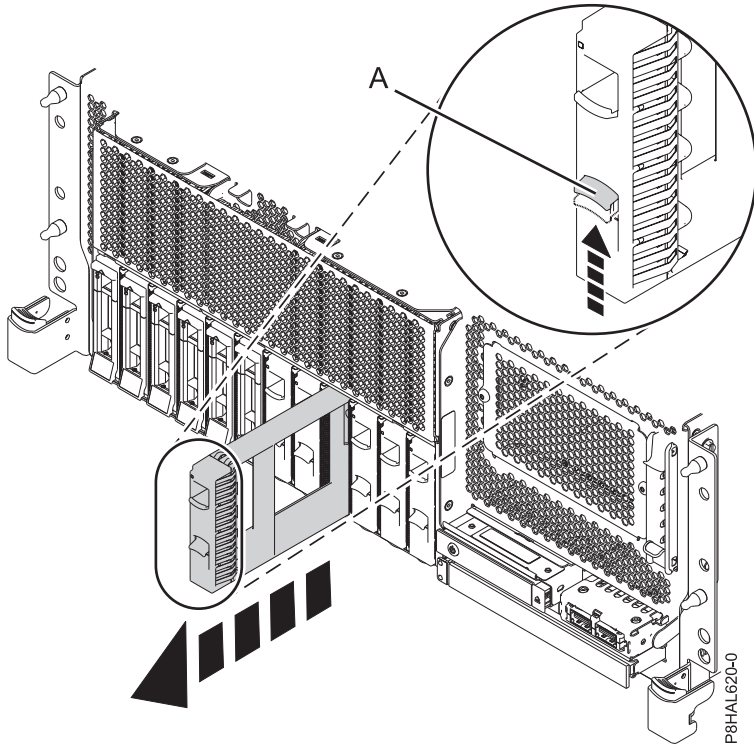

Figure 45. Removing a disk drive filler from a rack-mounted base function system
- a. Push the lock (A) on the handle of the filler in the direction that is shown in Figure 45.